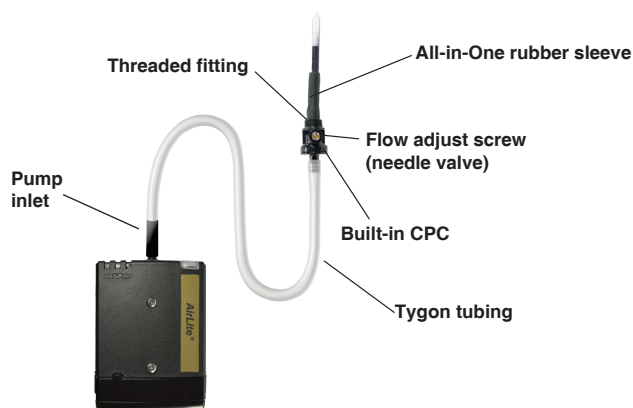

Figure 2. All-in-One Adjustable Tube Holder Connected to pump
1. Replace the representative sorbent tube used for calibrating flow with a new unexposed sorbent tube for sample collection. **Note:** Ensure sorbent tube fits snugly in rubber sleeve of the All-in-One before sampling to avoid any air leakage. Two sleeves, each a different inner diameter (ID), are supplied. See Figure 2.